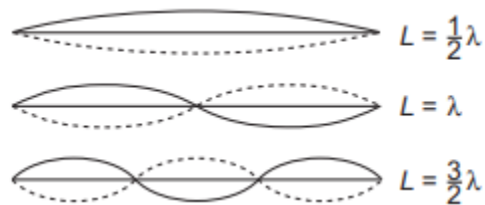

Figure 1. Standing Waves (Fixed Ends)
As seen in the above Figure 1., If the string is fixed at both ends then there must be a node at each end. It may vibrate as a single segment, in which case the length (L) of the string is equal to $1/2$ the wavelength (λ) of the wave. It may also vibrate in two segments with a node at each end and one node in the middle; then the wavelength is equal to the length of the string. It may also vibrate with a larger integer number of segments. In every case, the length of the string equals some integer number of half wavelengths. If you drive a stretched string at an arbitrary frequency, you will probably not see any particular mode; many modes will be mixed together. But, if the tension and the string's length are correctly adjusted to the frequency of the driving vibrator, one vibrational mode will occur at a much greater amplitude than the other modes.